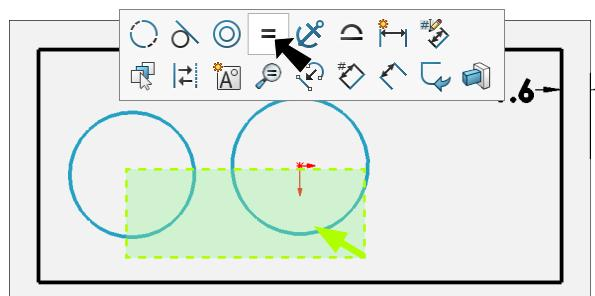

Fig. 40
Step 8. **Drag selection to left to select both circles** and click **Make Equal**  on the context toolbar, Fig. 40.